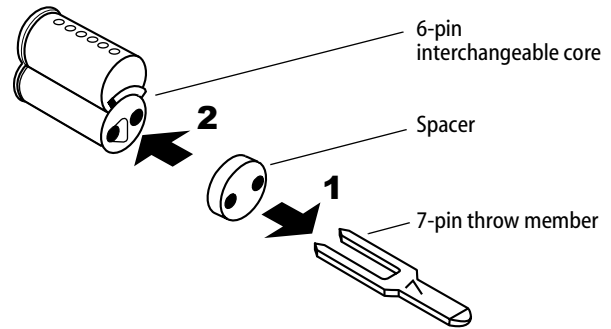

Figure 1 — Sliding a spacer over a 7-pin throw member, then installing the throw member and spacer into the 6-pin core.
- 1 Slide the spacer — supplied with your 6-pin cores — over the 7-pin throw member. See Figure 1.
- 2 Install the throw member and spacer into the back of the 6-pin core. See Figure 1.